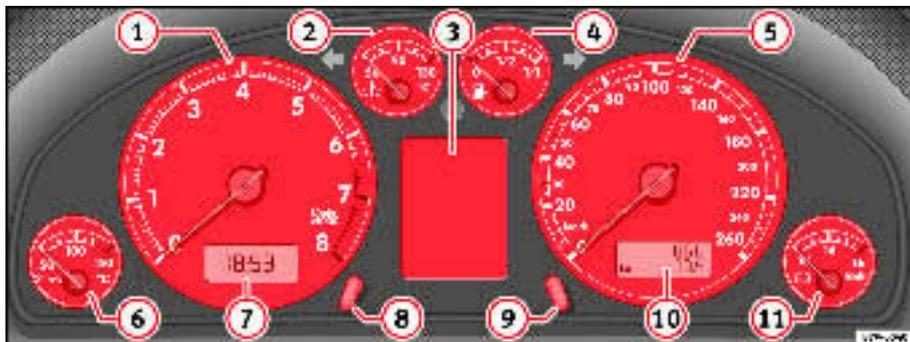

Fig. 44 Detailed view of dash panel instrument panel
If, for example, the needle is directly over the 2, this corresponds to an engine speed of 2000 rpm (revolutions per minute) ⇒ page 64, fig. 44 ①.
- Turn the setting knob ⇒ page 64, fig. 44 ⑧ briefly in an anti-clockwise direction to move the hour forward by one hour or
The top counter of the mileage display ⇒ page 64, fig. 44 ⑩ registers the total mileage covered by the vehicle.
The lower counter registers the short journeys. The last digit indicates steps of 100 metres. The trip recorder counter may be reset by the reset button ⇒ page 64, fig. 44 ⑨. ■
The voltmeter ⇒ page 64, fig. 44 ⑪ indicates the voltage of the vehicle electrical system. The voltage of the electrical system should normally be ►
The service display is shown either on the mileage display ⇒ page 64, fig. 44 (10) or in the display 7) in the combi-instrument ⇒ page 64, fig. 44 (3).